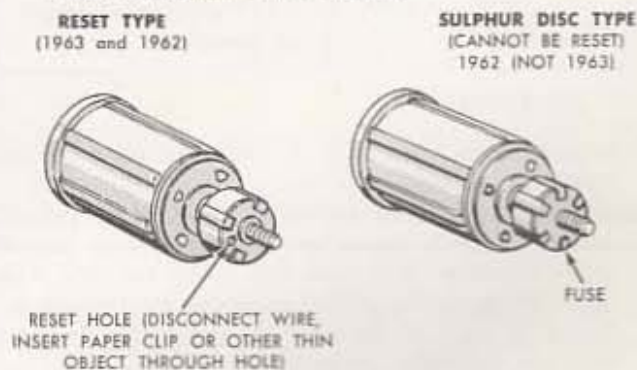

Fig. 21 Cigar Lighter Fuse and Circuit Breaker.
- 1-2. Replace the fuse (Fig. 21) with a known good fuse. If the lighter does not operate, the lighter is defective. If the lighter is protected with a manual reset type circuit breaker, reset the circuit breaker and check for lighter operation. If the lighter does not operate, replace the circuit breaker. If the lighter operates, the circuit breaker was defective; if it does not operate, the lighter is defective.